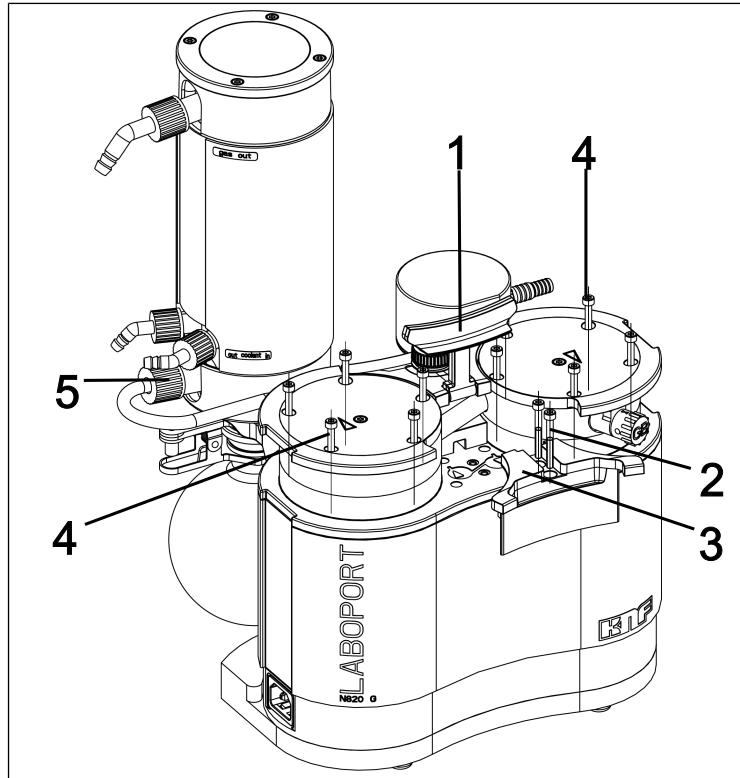

Fig.12: Remove handle cover
3. Remove the union nut of the hose connection (5/Fig. 12) from the vacuum system components.
4. Put the handle (1/Fig. 12) into a vertical position.
5. Loosen the two screws (2/Fig. 12) of the handle cover (3/Fig. 12).
6. Remove the handle cover (3/Fig. 12).
7. Loosen the 10 external head screws (4/Fig. 12) on both pump heads.
8. Remove the 10 external head screws (4/Fig. 12) from both pump heads.
1. Mark the pressure plate (2), head plate (3) and intermediate plate (6) with a continuous pencil stroke. This prevents the parts from being incorrectly mounted later on.
2. Remove the external screws (4/Fig. 12) of the pump heads.
9. Insert the 10 external screws (**4**/Fig. 12) in the pump head and tighten them in a crosswise pattern (tightening torque: SH/SR820G: 4 Nm; SR/SR840G: 5 Nm)
- i** If the external screws (**4**/Fig. 12) cannot be inserted into the pump head, loosen the internal head screw (**1**) and check the seating of the head plate (**3**) on the intermediate plate (**6**).
11. Hand-tighten the union nut of the hose connection (**5**/Fig. 12) on the high-performance condenser (**2**/Fig. 3).
1. Mount the handle cover (**3**/Fig. 12).
2. Tighten the screws (**2**/Fig. 12) of the handle cover (**3**/Fig. 12) (tightening torque: 2 Nm).